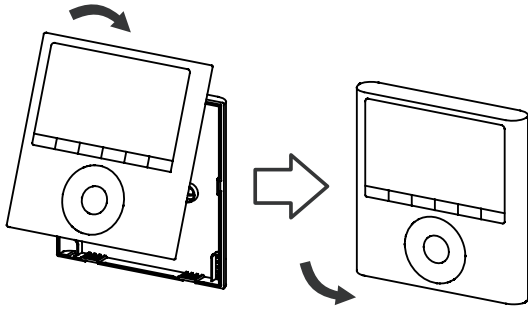

Fig 3.9
- While adjusting and mounting the upper case, avoid clamping the wiring during installation. (Fig 3.9)